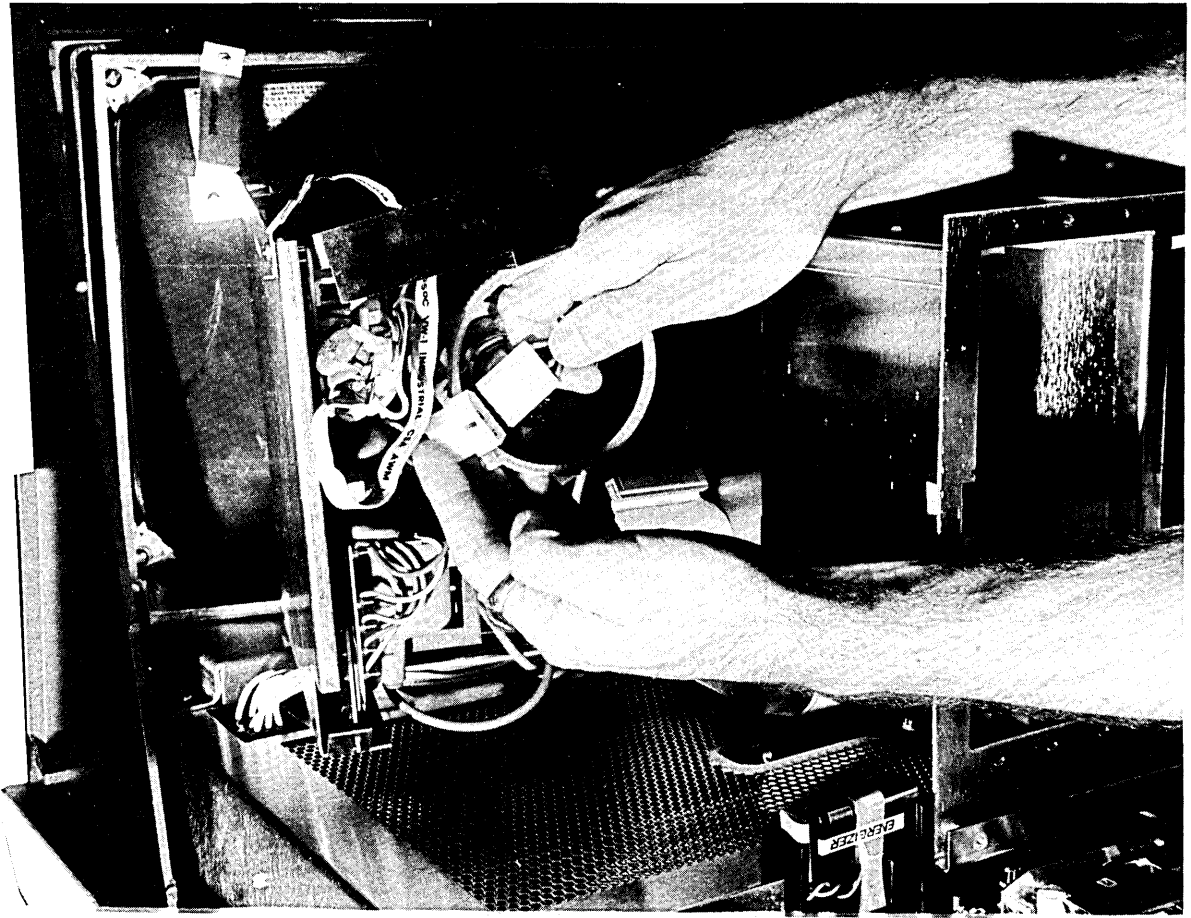

Figure 5-19. Disengaging the In-Line Connector
4. See figure 5-19. Disengage the in-line connector as shown.